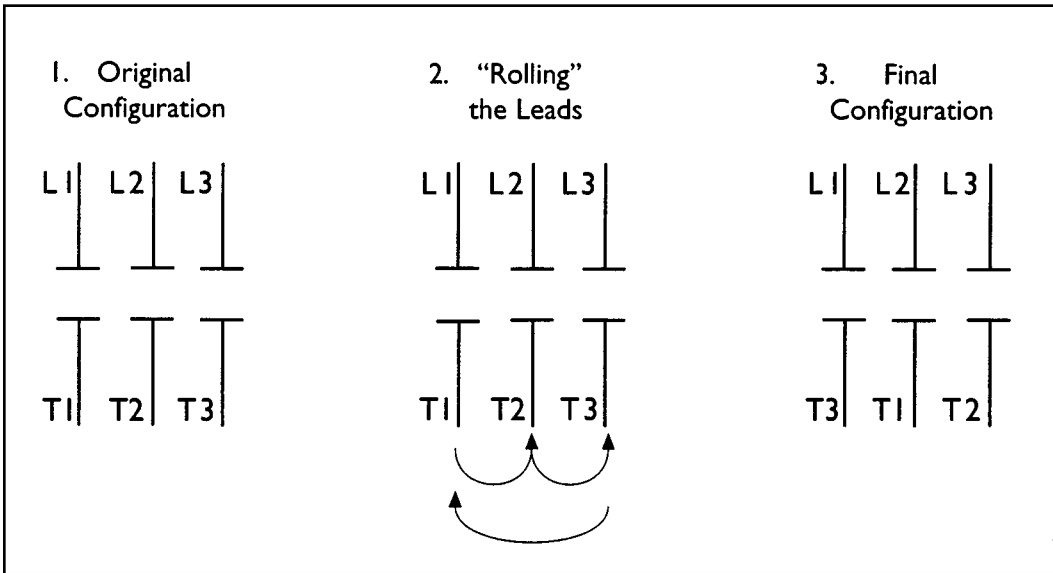

Figure 3.4
5. If the current imbalance is greater than 5%, "roll" the leads and retest (Figure 3.4, Rolling the Leads to Balance Current Rotation). If "rolling" the leads does not correct the problem, the source of imbalance must be located and corrected. For more information on current imbalance, refer to the motor operation manual.